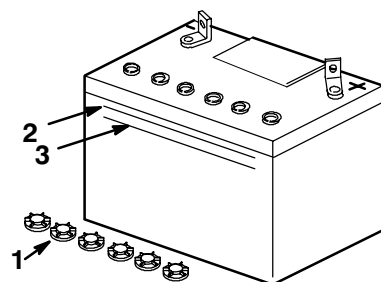

Figure 60
The electrolyte must be up to the Upper line (Fig. 60). Do not allow the electrolyte to fall below the Lower line (Fig. 60).
3. Remove the vent caps from the battery (Fig. 60).
4. Slowly pour distilled water into each battery cell until the electrolyte level is up to the Upper line (Fig. 60) on the battery case.
5. Wait five to ten minutes after filling the battery cells. Add distilled water, if necessary, until the electrolyte level is up to the Upper line (Fig. 60) on the battery case.